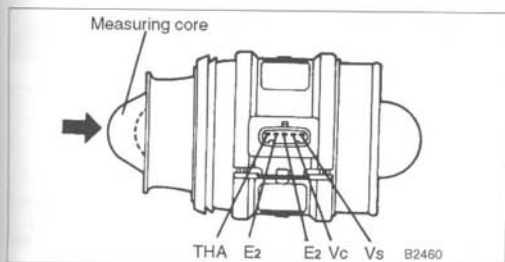

Fig. 3-5. Measuring-core air flow sensor. Measure resistance values at about room temperature, 70°F.
3. Measure resistance across terminals shown in Fig. 3-5. See **Table f** for test values.